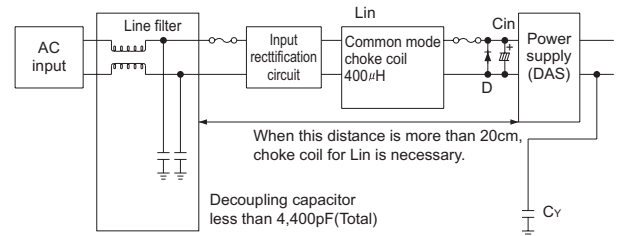

Fig.3.1 Connection of input circuit
- Refer to Fig.3.1 for recommended values of the noise filter for the input rectification filtering circuit. When the distance between the power supply(DAS) and the primary decoupling capacitor is more than 20cm, install a common mode choke(Lin) with more than 400µH between the unit and input rectification filtering circuit.